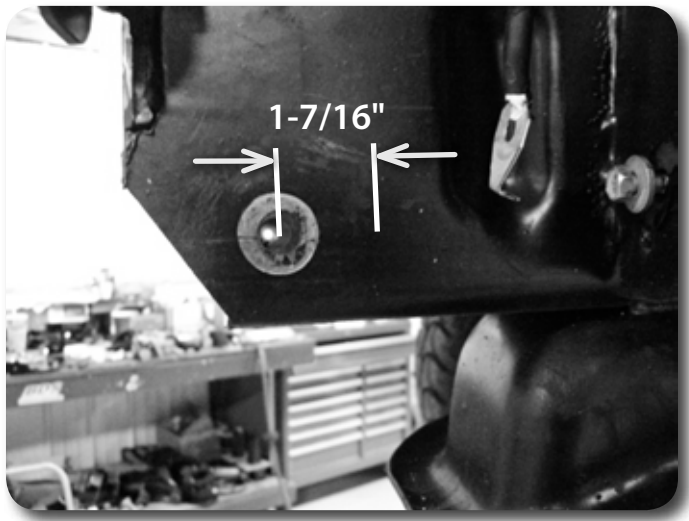

Figure 12
22. Locate the factory tow hook mount holes in the front of the frame rails. The driver's side of each frame rail will only have one tow hook hole. Measure straight back from the center of the existing hole  $1\text{-}\frac{7}{16}$ " and mark. **Figure 12** Drill a  $\frac{1}{2}$ " hole at the mark (one hole per frame rail).